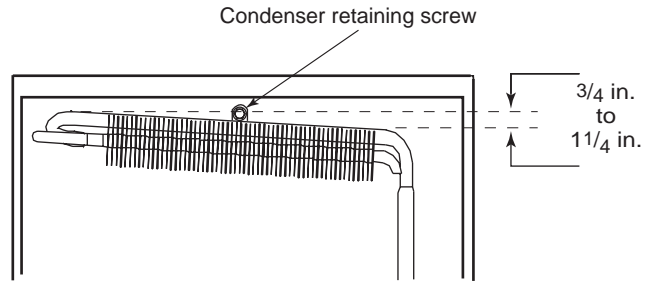

Figure 32. Condenser angle and retaining screw
11. Remove the burner box retaining screws (2), then remove the burner box.
13. Remove the power board cover retaining screws (3), then remove the cover.
20. Remove the condenser retaining screw. See Figure 32, page 36.